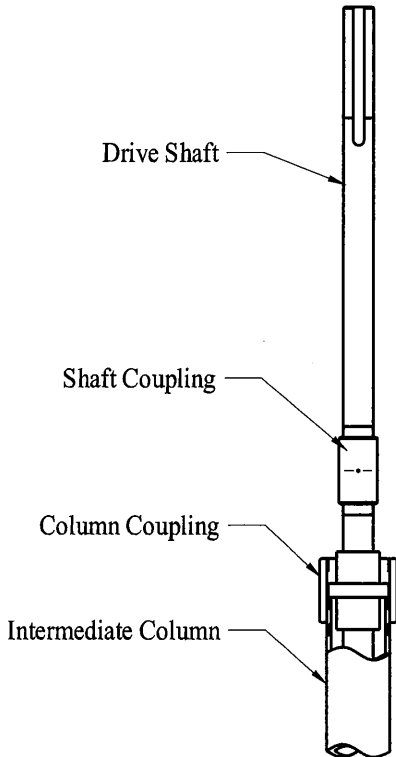

FIGURE 5.
11. Thread a shaft coupling onto the last intermediate shaft until coupling is halfway on shaft. Use the witness hole in the shaft coupling to assure that the coupling is half way on the bowl shaft. See Figure 5.